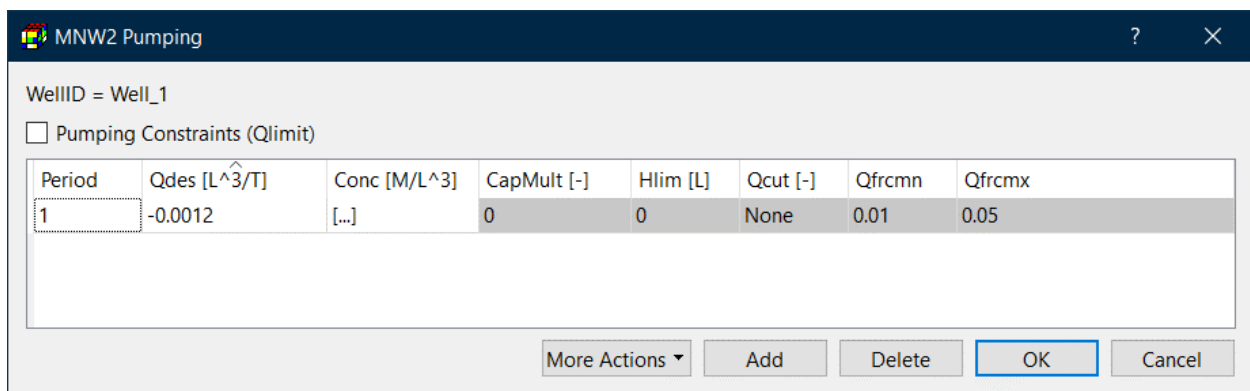

Figure 7. The MNW2 Pumping dialog box
3. To assign pumping values to a well, double-click on the respective cell of the Pumping column to open the MNW2 Pumping dialog box (Figure 7), and do the following steps.